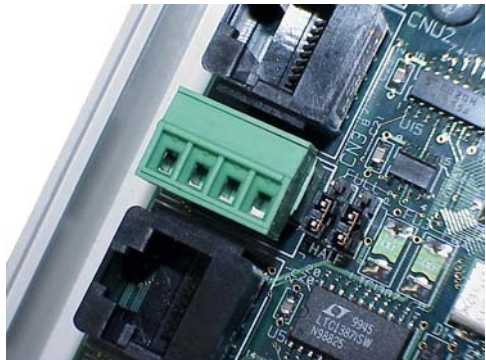

Figure 11: RS-485 Terminal Block (CN3) and Duplex Selection Jumpers
- If a 2-wire RS-485 drive network is desired, then the drive(s) must be properly configured for 2-wire RS-485. Note that this may involve hardware configuration in addition to parameter changes. For example, G7/Q7/H7-series drives have duplex selection jumpers located on the drive's control board near the communication ports. For these drives, both jumpers must be placed in the "HALF" position for successful 2-wire operation. Refer to Figure 11 for an example detailed view of correctly-positioned duplex selection jumpers.